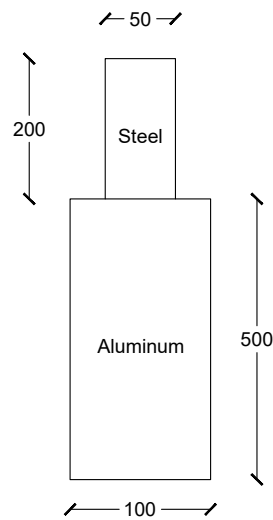

Figure-5
- (c) A member is formed by connecting end to end a 200mm long steel bar of $50\text{mm} \times 50\text{mm}$ square section with 500 mm long aluminum bar of $100\text{mm} \times 100\text{mm}$ square section as shown in **Figure-5**. Determine the total change in length of the member, if the member carries an axial tensile load of 1000kN. Also calculate stress in each part of the member. Take $E_{\text{Steel}} = 2 \times 10^5 \text{ MPa}$ and $E_{\text{Aluminum}} = 1 \times 10^5 \text{ MPa}$. **07**